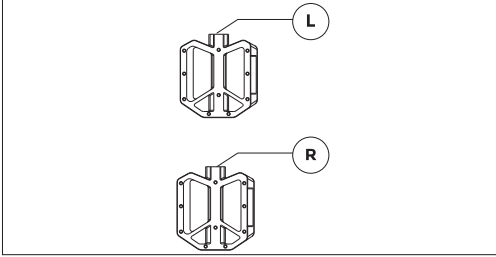

Figure 2-1
- a. Use the 15 mm wrench to mount the pedals, as shown in (Figure 2-1).